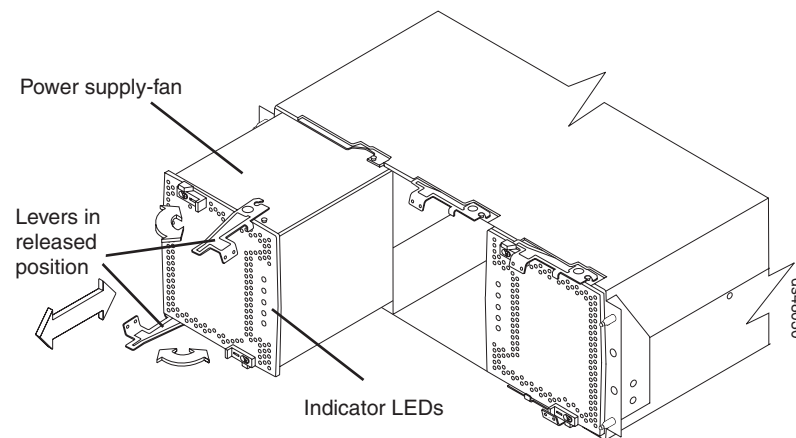

Figure 21. Replacing the power supply-fans
1. Replace the power supply-fans. Figure 21 shows the locations and correct orientation of the power supply-fans and the power supply-fan levers. The power supply-fans are keyed to always fit into the enclosure in the proper orientation. When the component is oriented correctly, a relief along one edge of each component aligns with a ledge in the enclosure. Before installing the component, turn the component so that the indicator LEDs are near the center of the storage subsystem.